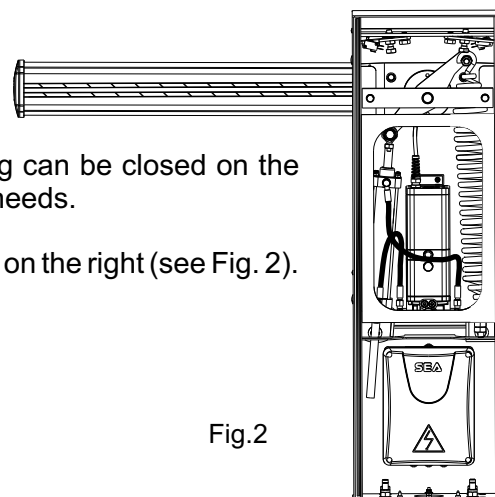

Fig.2
e.g. if the spring is on the right-hand side, the guard opens on the right (see Fig. 2).
Barrier with opening on the right (Fig.2)